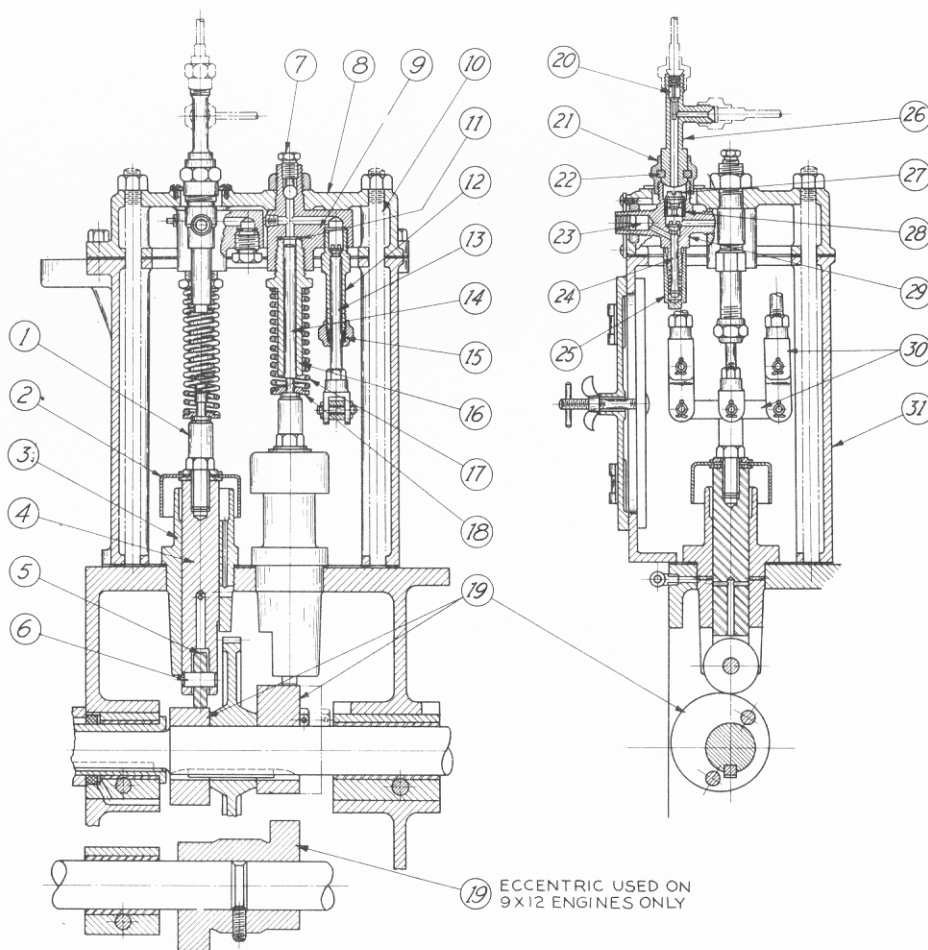

FIG. 0-1
Referring to Fig. 0-1, cast iron guides (3) are located in holes in the centerframe and are secured in place by capscrews. Lifters (4) which work in these guides carry rollers (5) against which the eccentrics (19) operate. Clearance between lifters and guides is .0015" to .0025". The case hardened rollers have a clearance of .001" to .002" on pins (6), which are riveted in place in the lifters. Lubricating oil is piped from the pressure pump to the guides, as shown in the cross section view of Fig. 0-1. At the top of the lifter stroke the drilled holes in the lifters communicate with the oil holes in the guides, flooding rollers and eccentrics with oil. A drain hole and counterbore at the top of the guide prevents pumping lubricating oil. Shields (2) secured to the tops of the lifters by plugs (1) prevent any fuel oil leaking down from the pump plungers from entering the tops of the guides.